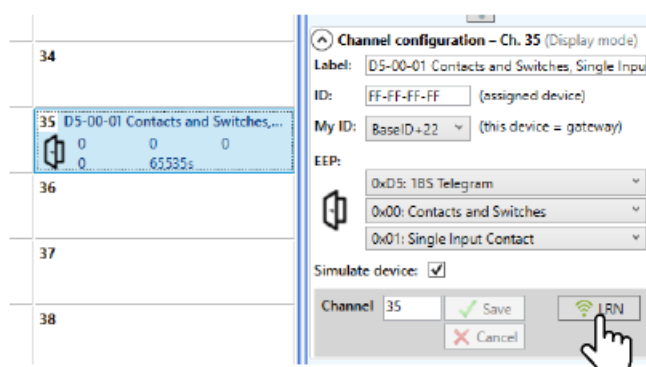

Fig. 6.6 Virtual device – send teach-in telegram
1. Select the channel 35 (Fig. 6.6)